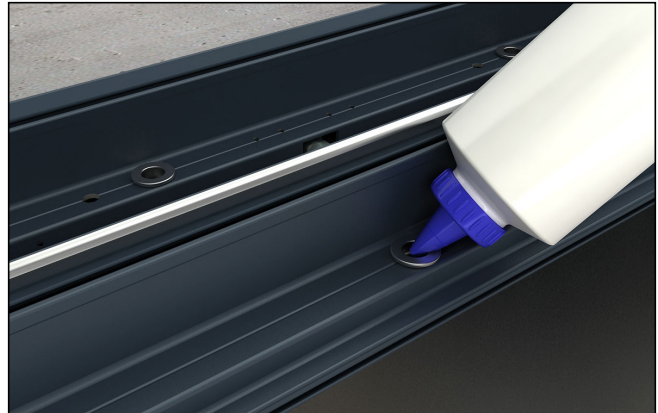

Figure 11
2. Once the sill has been positioned in the specified location, use powdered marking chalk to mark the location of the leveling screws on the panning. See figure 11.